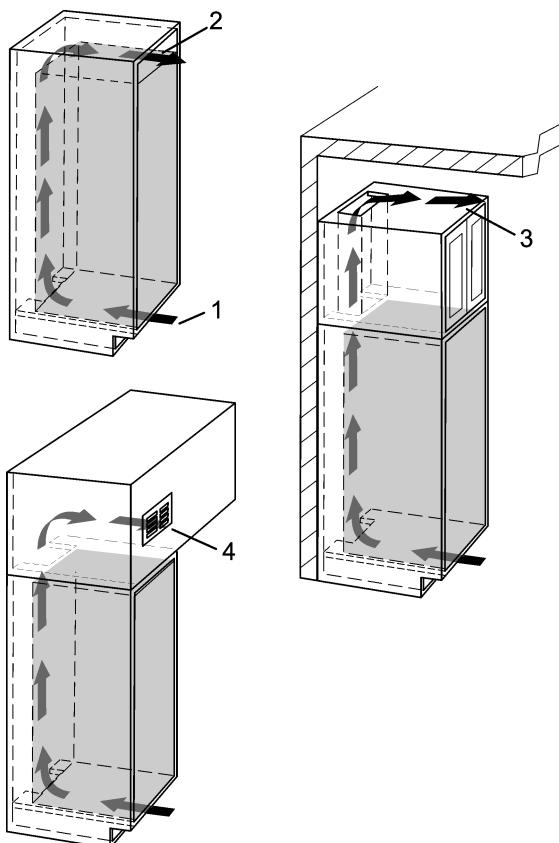

Fig. 4
- The top ventilation space can be either directly over the appliance *Fig. 4 (2)* or next to the ceiling over a cabinet *Fig. 4 (3)*, or through a vent installed in a soffit *Fig. 4 (4)*.
- There must be a ventilation space at least 31 in^2 (200 cm^2) at the airflow inlet *Fig. 4 (1)* and at the airflow outlet *Fig. 4 (2)*.